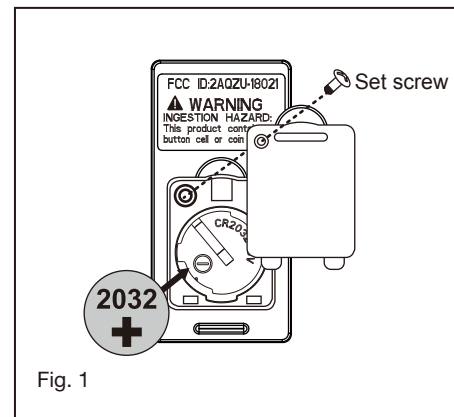

Fig. 1
1. Insert the receiver into the ceiling mounting bracket with the flat side of the receiver facing the ceiling. (Fig. 1) For best performance, make sure the Black Antenna and WIFI Antenna, on the end of the receiver, remains extended and not tangled with any of the electrical wires.
- 1 Fasten blade arm to motor with provided blade arm screws. Repeat procedure for remaining blade arm. Make sure screws are **TIGHT** ! Loose motor screws can contribute to unnecessary hum during operation (Fig. 1) .
- 1 Select a desired location. Use the wall plate to mark the location of the mounting holes. Plastic wall anchors or mounting screws are needed for this application. (Fig. 1)
Remove the panel from the transmitter and then install one 2032 battery (included). You need to use a screwdriver to open or close the battery cover. To prevent damage to transmitter, remove the battery if not use for long periods of time (Fig. 1)